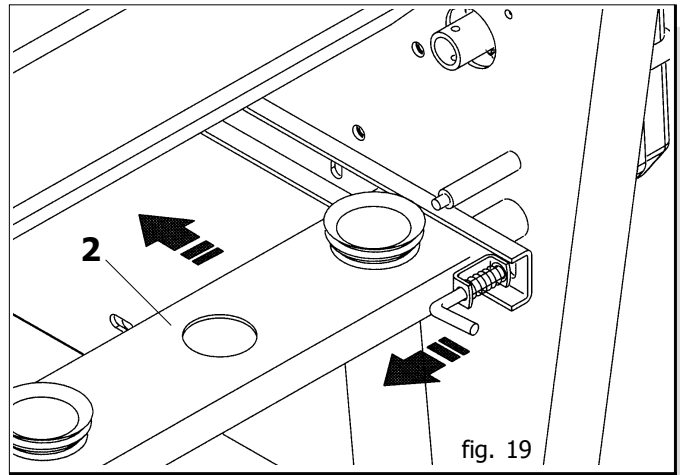

fig. 19
- 1) Lower the rack (2 Fig. 19).